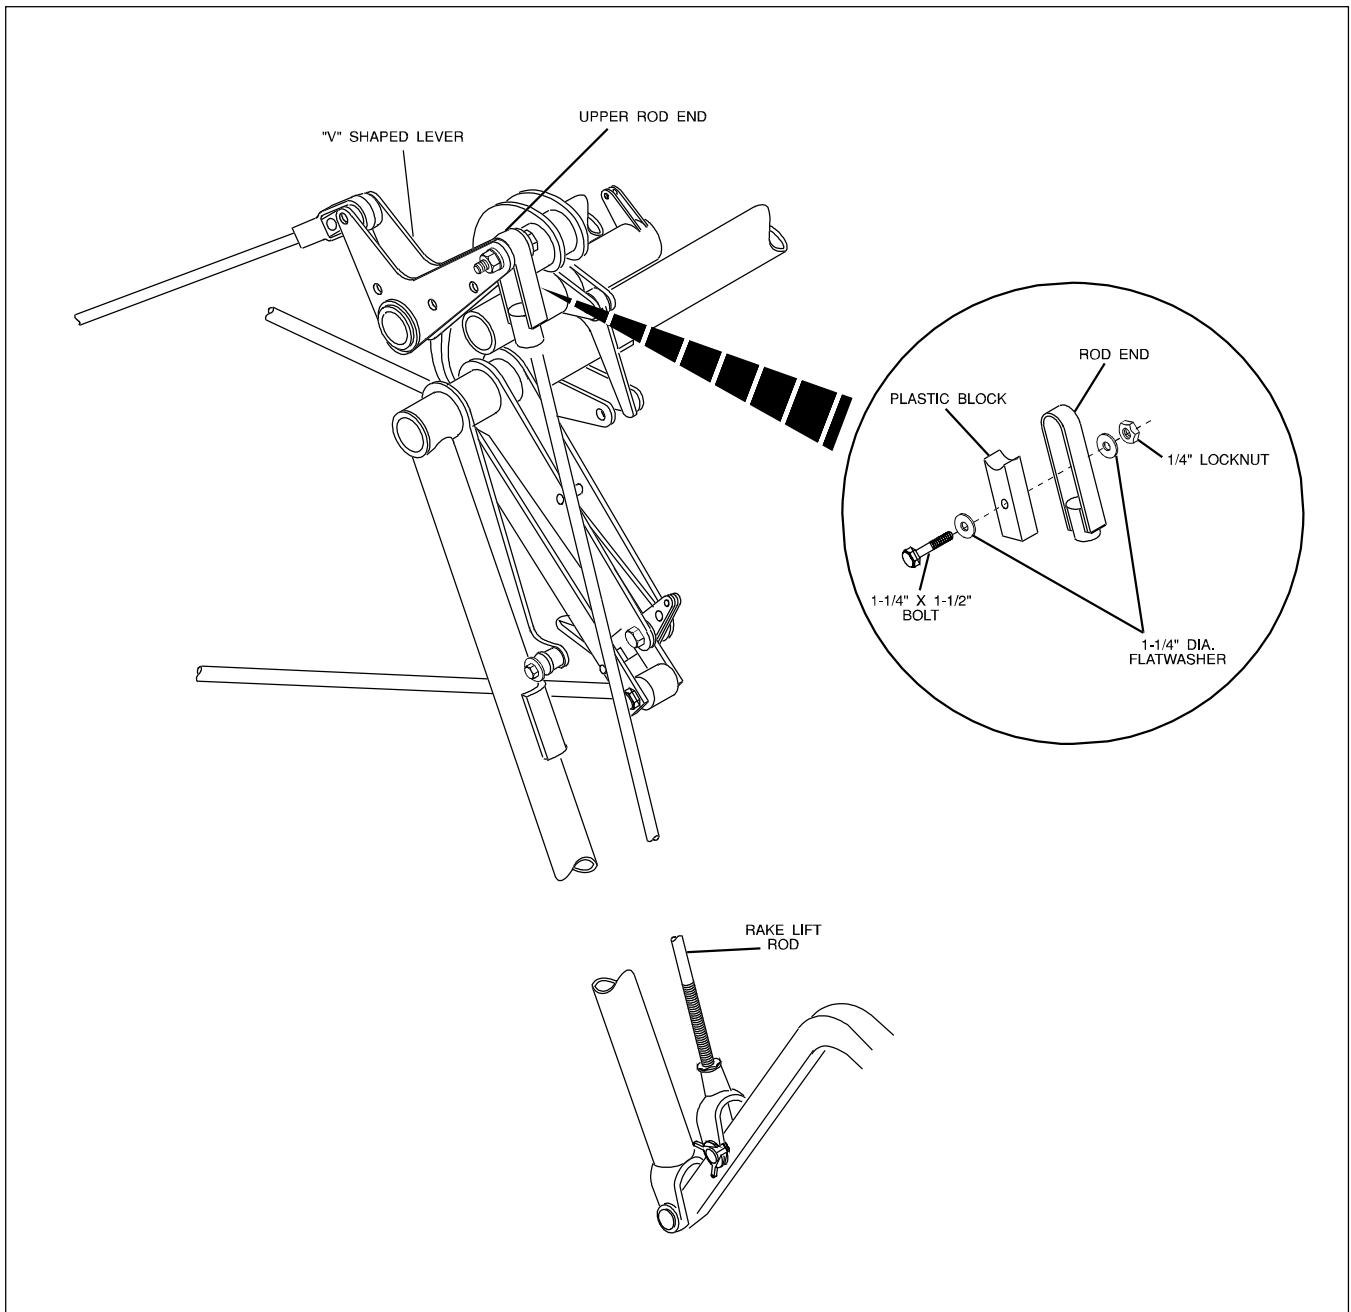

Figure 18. Rake Lift Rod Modification
2. Place the plastic blocks into the slot of the rake lift upper rod ends as shown in Figure 18.
3. *Secure the plastic blocks with the 1-1/4" dia. flat washers, bolts and lock nuts tightened around the rod ends shown in Figure 18.*
If the model A cycle solenoid is left in operation, it is suggested that the stroke be limited by drilling a hole in the solenoid mounting bracket and installing the proper length bolt to limit the stroke of the solenoid plunger so it doesn't extend out all the way. (Figure 18) Position the bolt so the solenoid plunger only extends enough to produce 1/8" gap between the slot in the connecting link and the pin in the starter bellcrank lever. It is also recommended that the "X" washer pin in the bellcrank and connecting link slot be replaced with the model A-2 pin (part no. 10-229451-000) and "O" ring (part no. 11-625538-000). This will extend the life of the solenoid plunger, connecting link, and pin on the starter bellcrank lever.